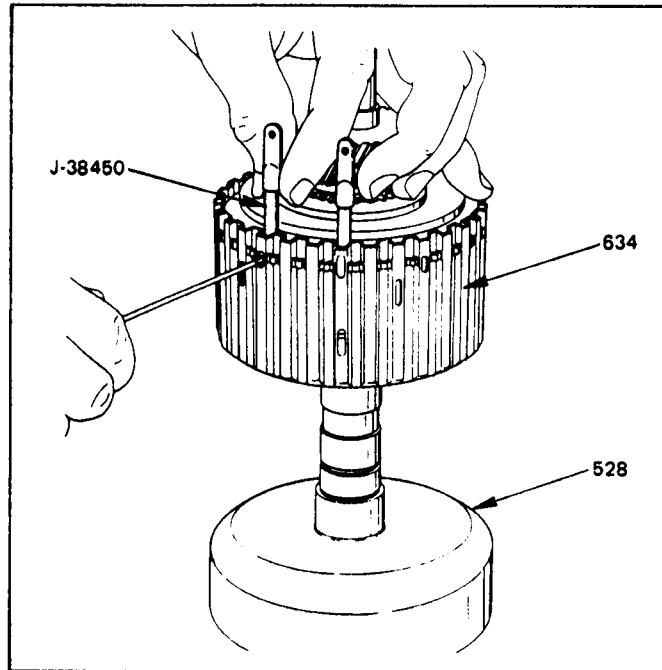

Figure 71
2. Place the 3rd clutch housing upright using the overdrive ring gear as a fixture, as shown in Figure 71.
3. Locate the end of the snap ring and push near the end using a screwdriver through the side slot, and slide one tool blade between the ring and the housing to hold the ring clear of the groove (See Figure 71).
4. Repeat the process with a second tool blade near the other end of the snap ring (See Figure 71).